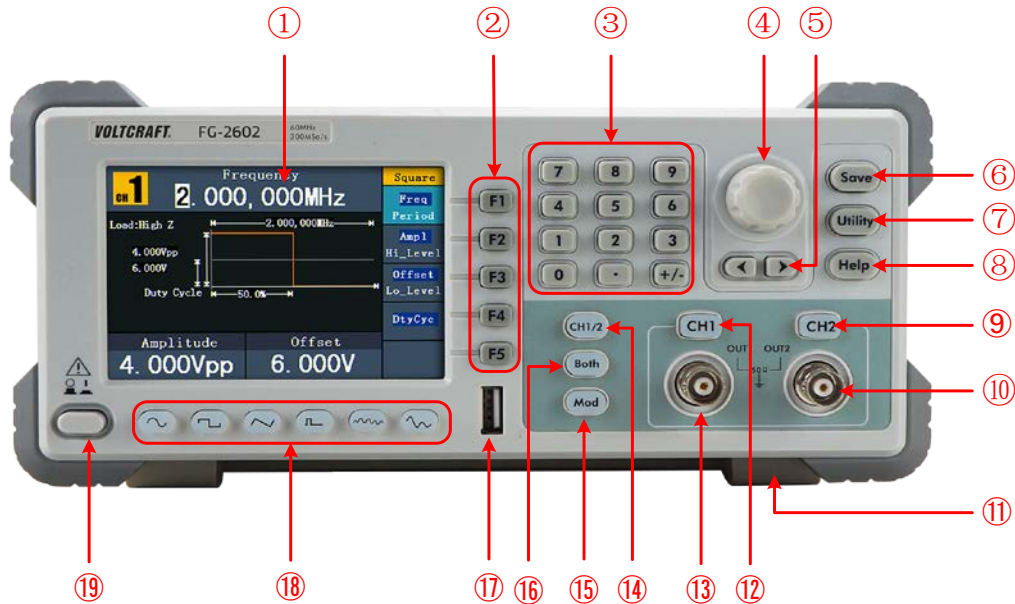

Figure 4-1 Front panel overview (FG-2252 shown)
Unfold the foot stools on the bottom of the generator, as ⑪ in *Figure 4-1*.